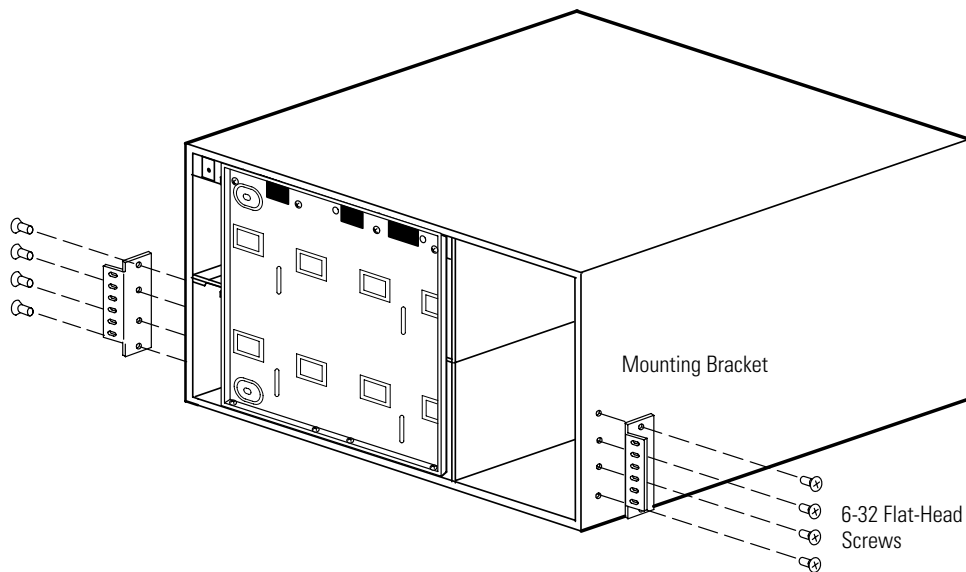

Figure 22. Installing the UPS Mounting Brackets
11. If the mounting brackets are not already installed, align the two mounting brackets with the screw holes on the sides of the UPS and secure with the supplied 6-32 flat-head screws (see Figure 22).